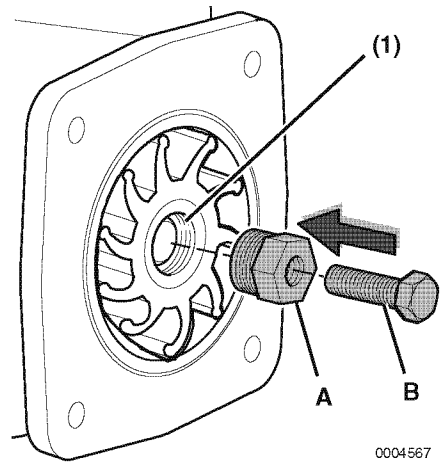
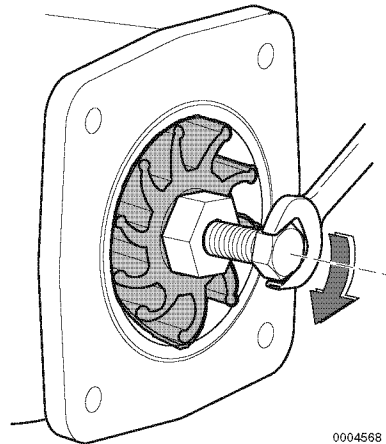

Figure 17
Figure 18
*Note: When replacing a used impeller with a new one, the impeller must have an M18x1.5 thread (**Figure 17, (1)**). Turn the M18 screw side of the impeller to the cover side and install (**Figure 18**).*